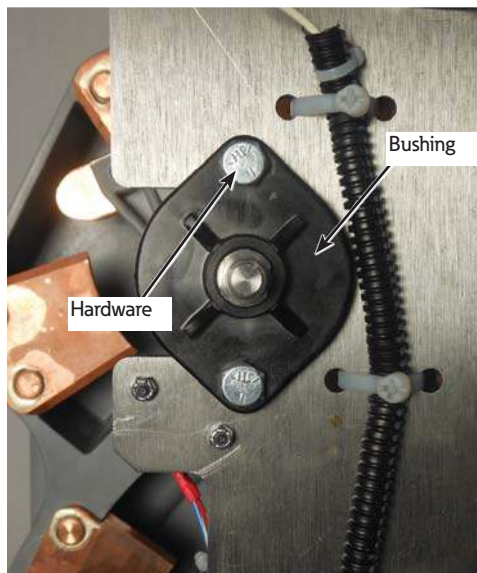

Figure 20. Reinstalling bushing
24. Apply Loctite® 243™ Threadlocker to the two 1/4-28 bolts. Using the bolts and a 7/16" wrench, fasten the reversing movable bushing to the front of the tap-changer. Tighten the bolts to a torque of 30–40 in-lbs (3.4–4.5 Nm). See Figure 20.